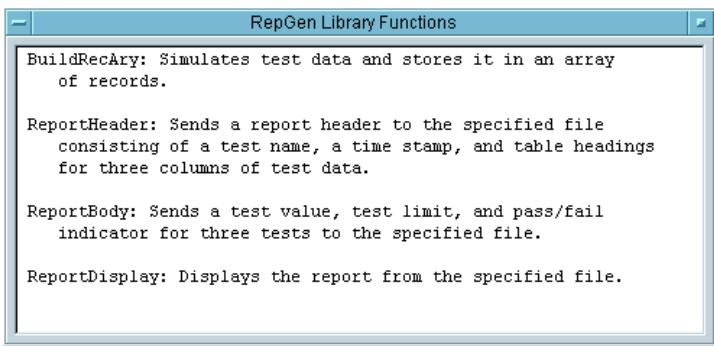

Figure 8-17. The RepGen.vee Library of UserFunctions
3. Select Display \Rightarrow Note Pad and type the UserFunction descriptions similar to the ones shown in Figure 8-17. Then save the program as RepGen.vee.